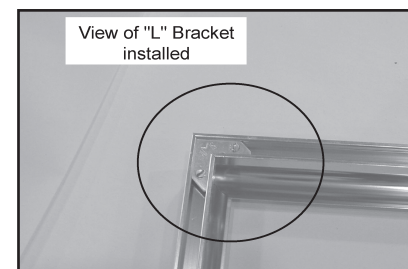

Figure 22.4
2. Assemble the trim with the (2) corner brackets provided. **Figure 22.4.**